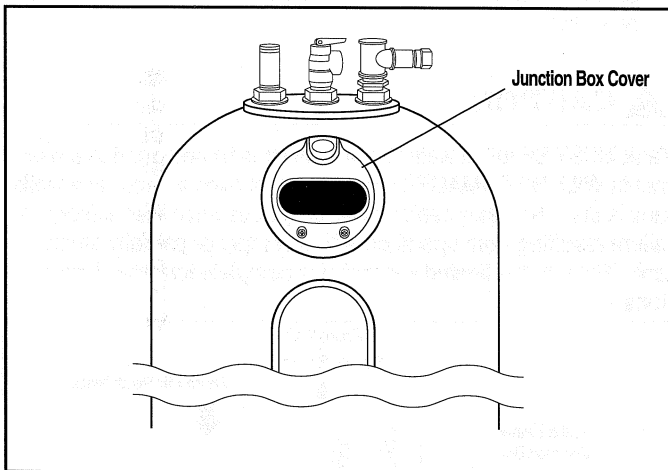

Figure 4 — Water heater junction box location.
6. **ELECTRICAL CONNECTIONS** — The water heater is completely wired to the junction box inside jacket at top front of water heater (see Figure 4). An opening for a $\frac{1}{2}$ " or $\frac{3}{4}$ " electrical fitting is provided for field wiring connections. A separate branch circuit with copper conductors, overcurrent protective device and suitable disconnecting means must be provided by a qualified electrician. The voltage requirements and wattage load for the water heater is specified on the rating plate on front of heater. Be certain that the